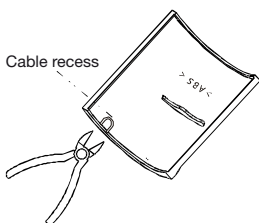

Fig. 11
3. Cut a hole in the cover of the adapter cable. Fig. 11